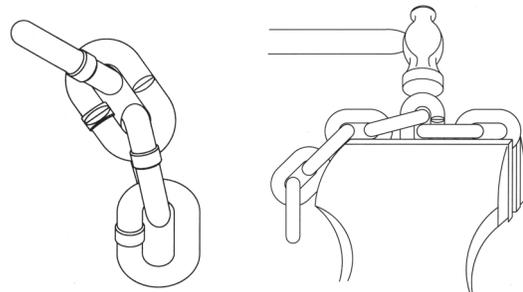

Figure 6. Cutting Chain by Nicking
1. Use a grinder and nick the link on both sides (Figure 6), then secure the link in a vise and break off with a hammer.